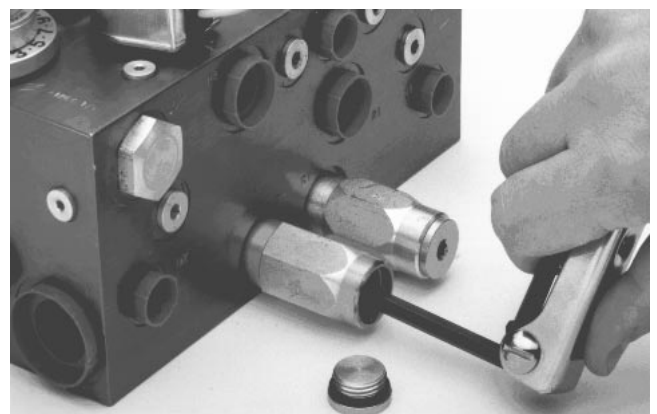

Figure 20c
6. Stop the engine. If pressure is too high, remove cap on relief valve R1 and adjust screw to get correct pressure (Fig. 20c). If pressure is too low, check for restriction in pump intake line. Remove cap from relief valve R1 and adjust screw to get correct pressure. If pressure is still too low, pump or lift cylinder(s) should be suspected of wear, damage or inefficiency.
7. Stop the engine. If pressure is too high, remove cap on relief valve R2 and adjust screw to get correct pressure (Fig. 20c). If pressure is too low, check for restriction in pump intake line. Remove cap from relief valve R2 and adjust screw to get correct pressure. If pressure is still too low, pump or motor should be suspected of wear, damage or inefficiency.